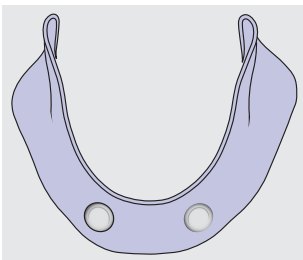

Fig. 5
- (Fig. 5): A custom tray or stock tray can be used for making the impression. The area around the Abutment should be relieved by 2 mm.